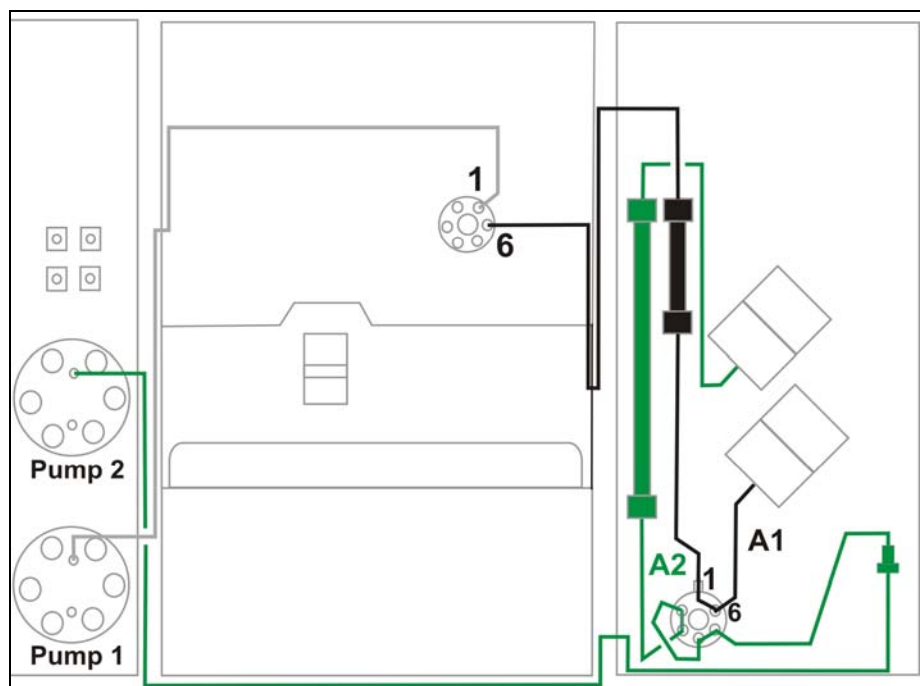

Figure 19. Pressure measurement of both flow paths with CS valve in position A.
- Open the system file "ALX_CS-tuning_xxyy.smt" in ALEXYS to recording the pressure profiles of both pump 1 (flow path A1) and pump 2 (A2). See figure 19.